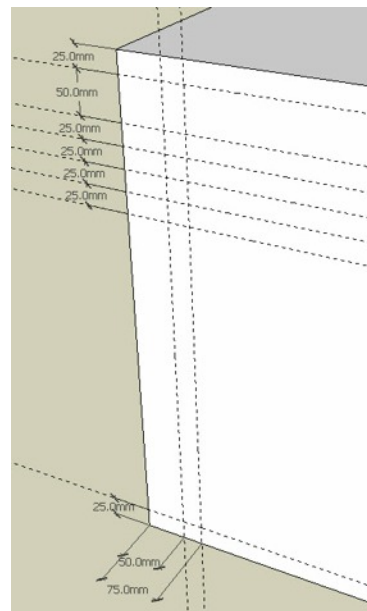

Figure 80. The left edge of the box with guides and distances shown
- At the left edge of the box create guides to the dimensions as shown in Figure 80.